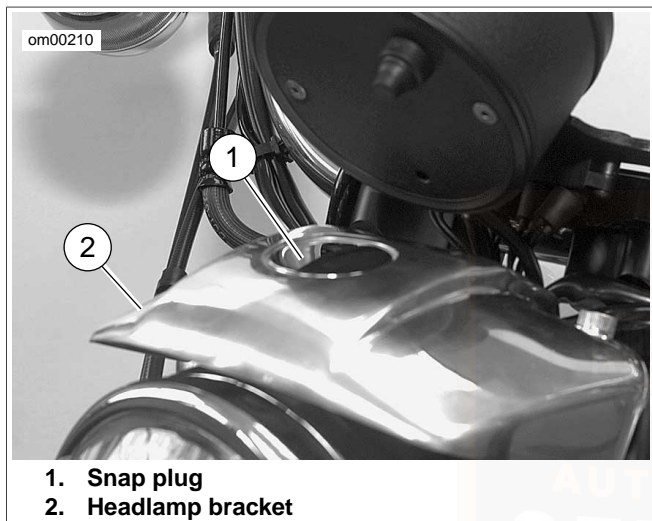

Figure 53. Headlamp Snap Plug: Sportster Models (XL Model Shown)
1. See Figure 53. Remove snap plug (1) on top of headlamp bracket (2).